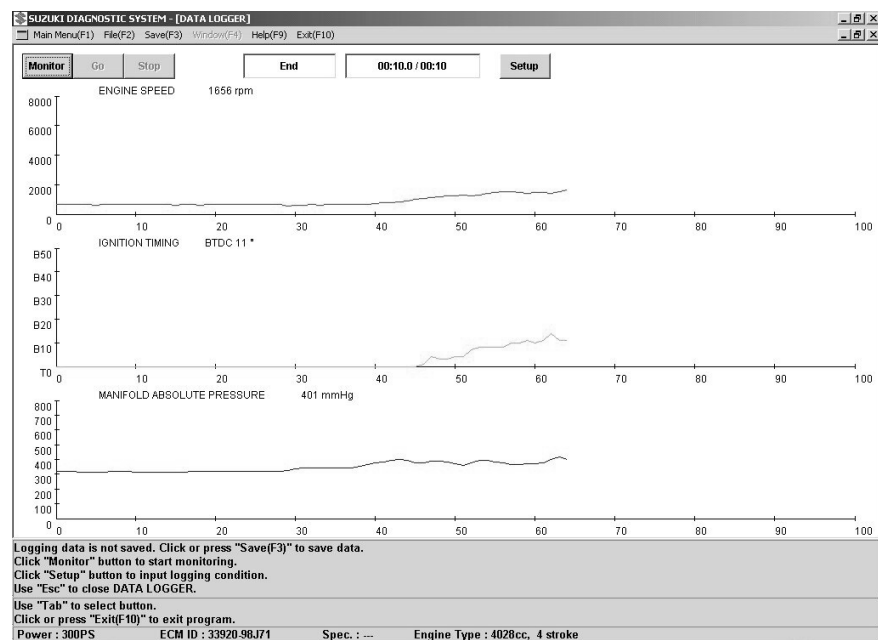

Fig.67
1. Clicking the “DATA LOGGER” button from the Main Menu dialog box (Fig.48) displays the following window (Fig.67). This window can display up to three primary service data in the graph form.
3. To monitor data, click the “Monitor” button. To stop monitoring, click the “Stop” button. (Fig.67)